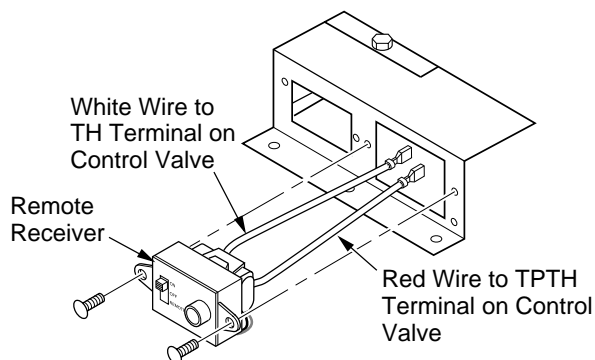

Figure 28 - Installing Remote Receiver
5. Connect wires from remote receiver to control valve as shown in Figure 28.
6. Install remote receiver unit onto remote/blower bracket using screws provided (see Figure 28).